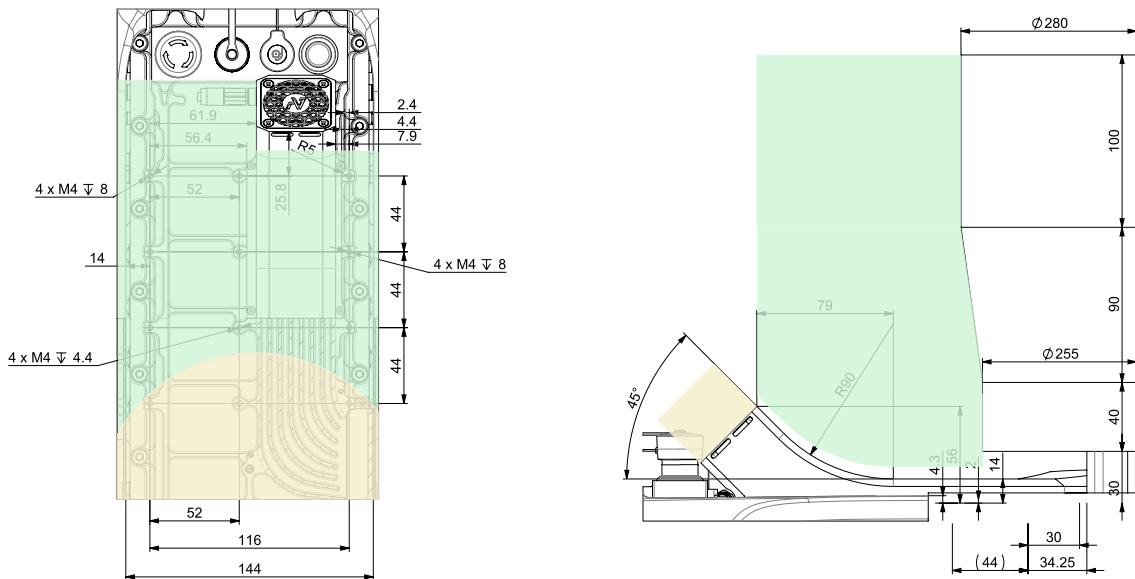

Figure 62 - Mechanical interface with inspection payload fitted to the Robot
- Inspection payload fitted to the Robot [Figure 62].